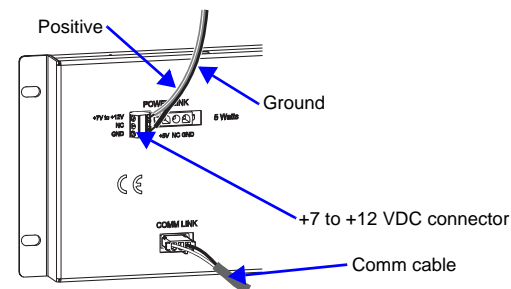

FIG. 4 Remove power connector, wire, and replace
- Loosen the two outer screws and insert the power cable wires (FIG. 4). The side of the wire with the white stripe is positive; the other side ground.